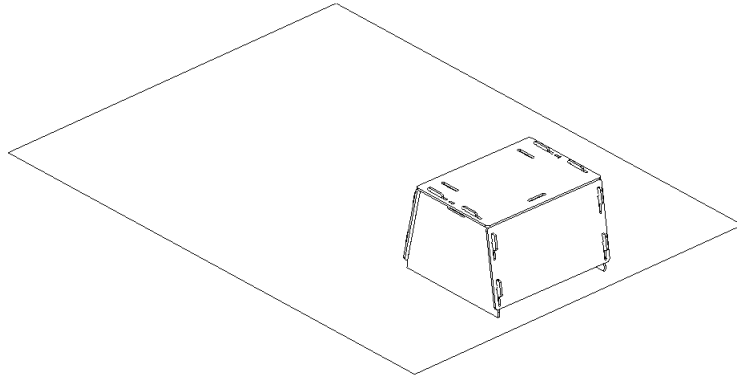

Figure 136: Scanner stand resting on a pattern.
2. Align the scanner stand with the rectangle marked on the pattern, paying close attention to the orientation of the slots in the stand cover (see *Figure 136*).